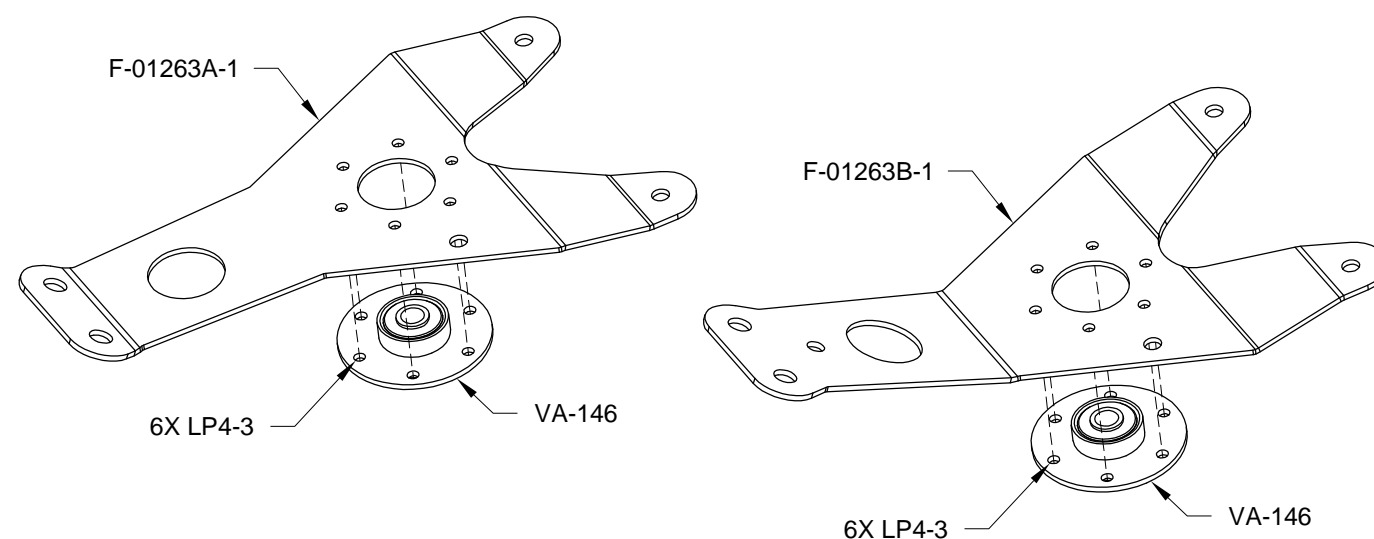

FIGURE 2: ATTACHING THE FLANGE BEARINGS
Step 2: Rivet the VA-146 Flange Bearings to the F-01263A-1 & B-1 as shown in Figure 2.